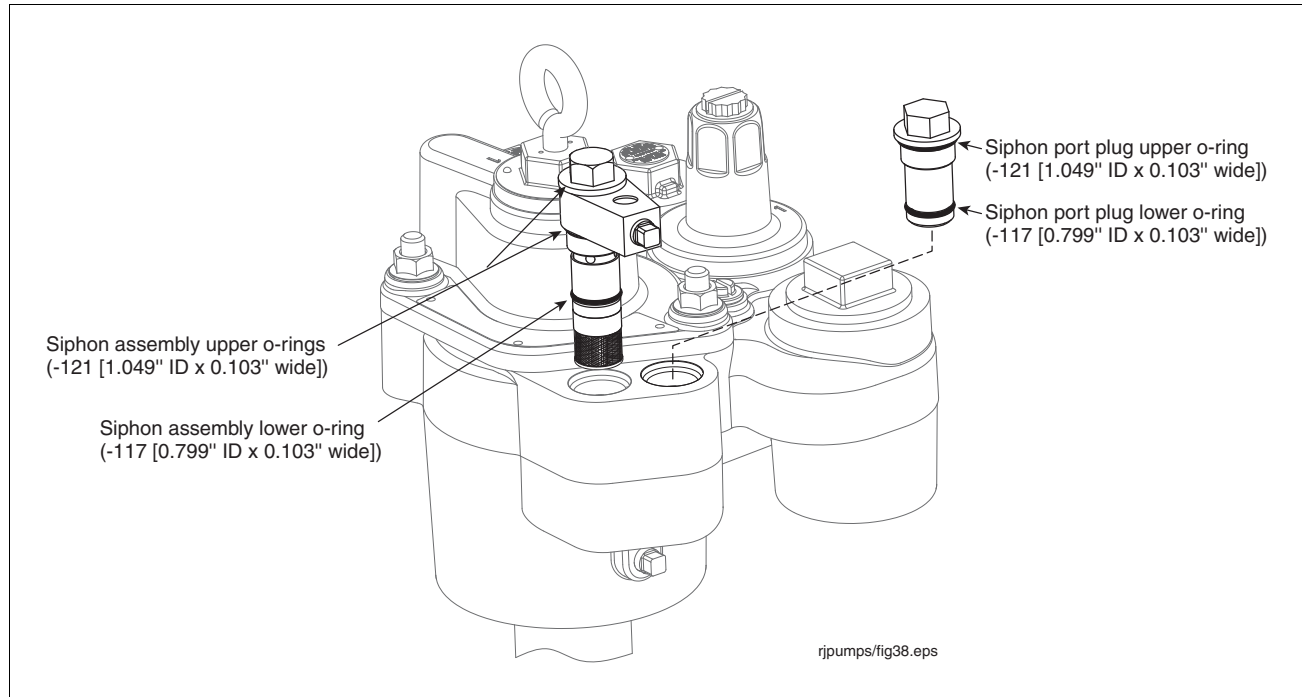

Figure 30. Inserting Siphon Assembly Into Manifold
5. Insert the siphon cartridge into the siphon port (see Figure 30). Swivel the outlet port of the siphon in the desired direction, and then hand tighten the siphon's retaining hex body. Torque the body to 25 - 30 ft-lbs (34 - 41 N•m).